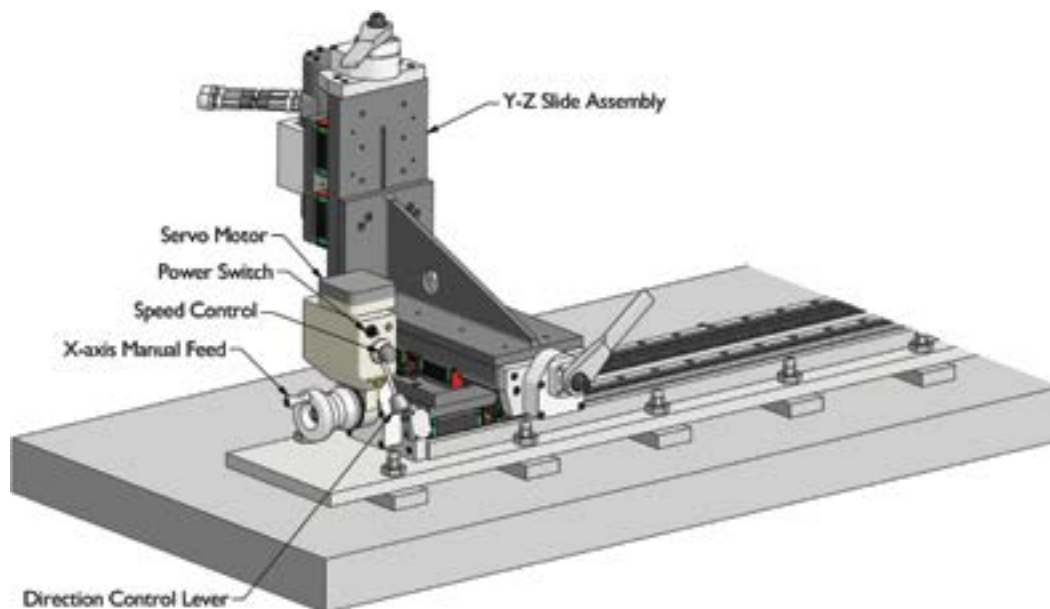

Figure 5 - Function Test Servo Motor
2. See Figure 5. Turn the X-axis manual feed knob to position the Y-Z slide assembly to one end of the mill. Set the servo direction control lever to the 'stop' (center) position. Connect the servo motor to a 110V power supply. Turn on the power switch. Move the servo direction control lever in the desired direction of travel to engage the X-axis drive. Make sure the Y-Z slide assembly moves smoothly along the length of the X-axis.